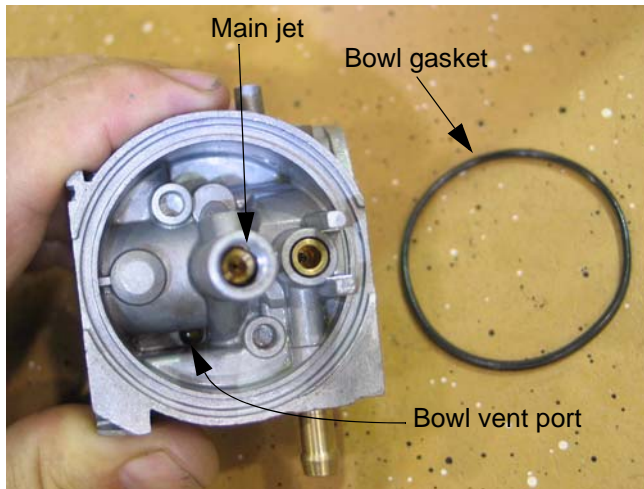

Figure 8.30
- 8.30. A narrow-shank straight blade screwdriver can be used to remove the main jet. See Figure 8.30.